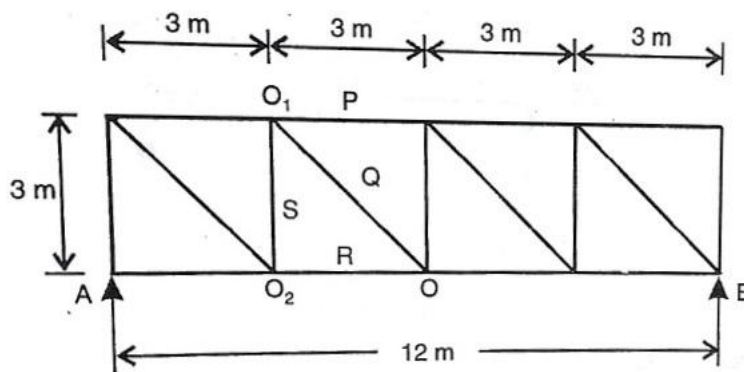

Figure 3.6
8. For a truss as shown in figure 3.6, draw the influence line diagram for the forces in member P, Q, R, S of the truss